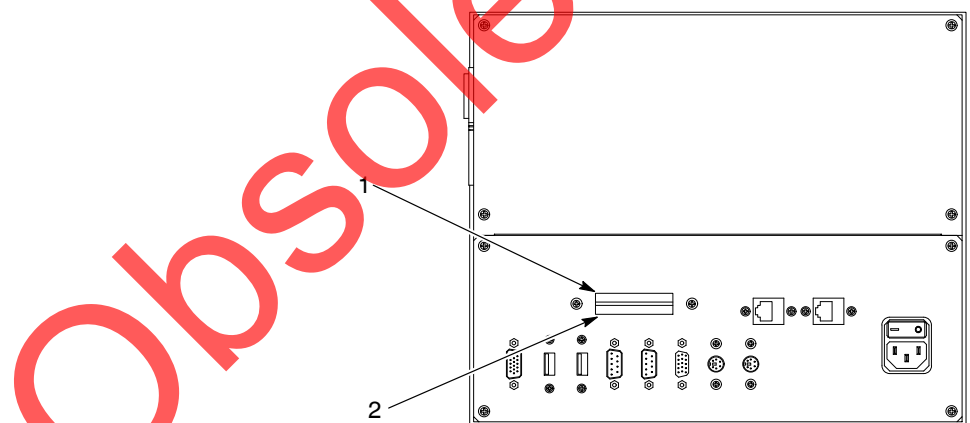

Figure 3-10 User Data and Program Card Locations
See Figure 3-10. The CompactFlash card slots are on the back on the PC. The top card (1) is the data card; the bottom card (2) is the program card.